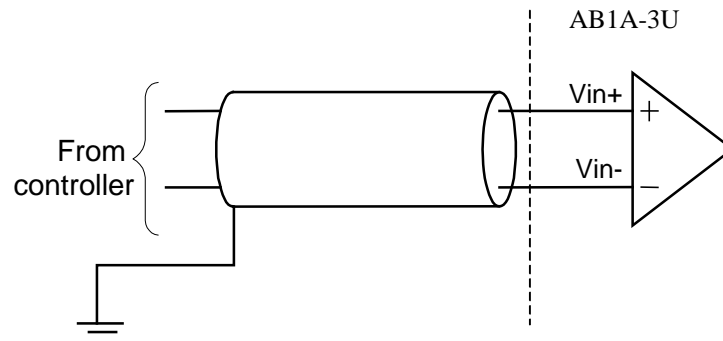

Figure 3: Differential Analog Input Connection
| Figure 3: Differential Analog Input Connection..... | 15 |
- Differential connection (see Figure 3)